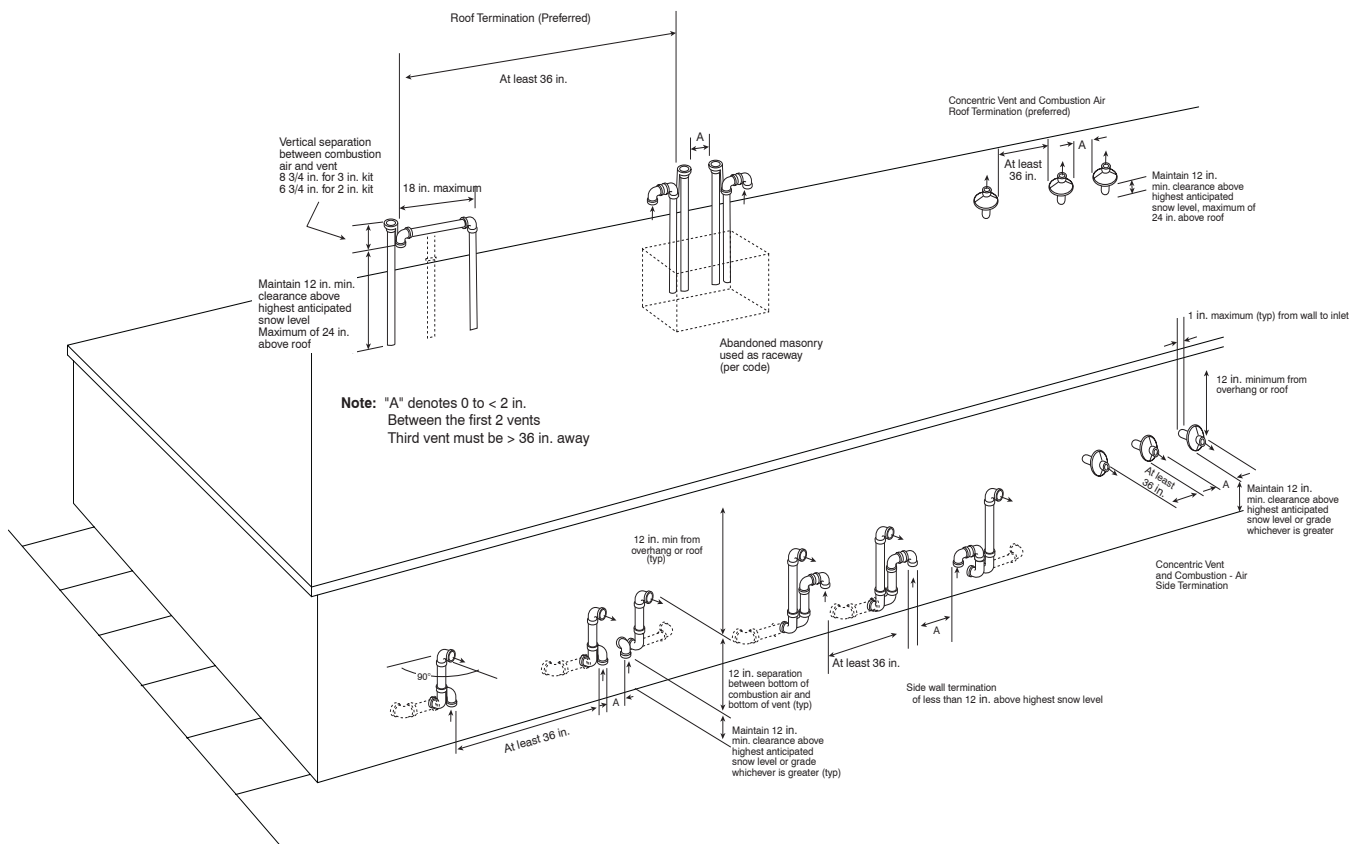
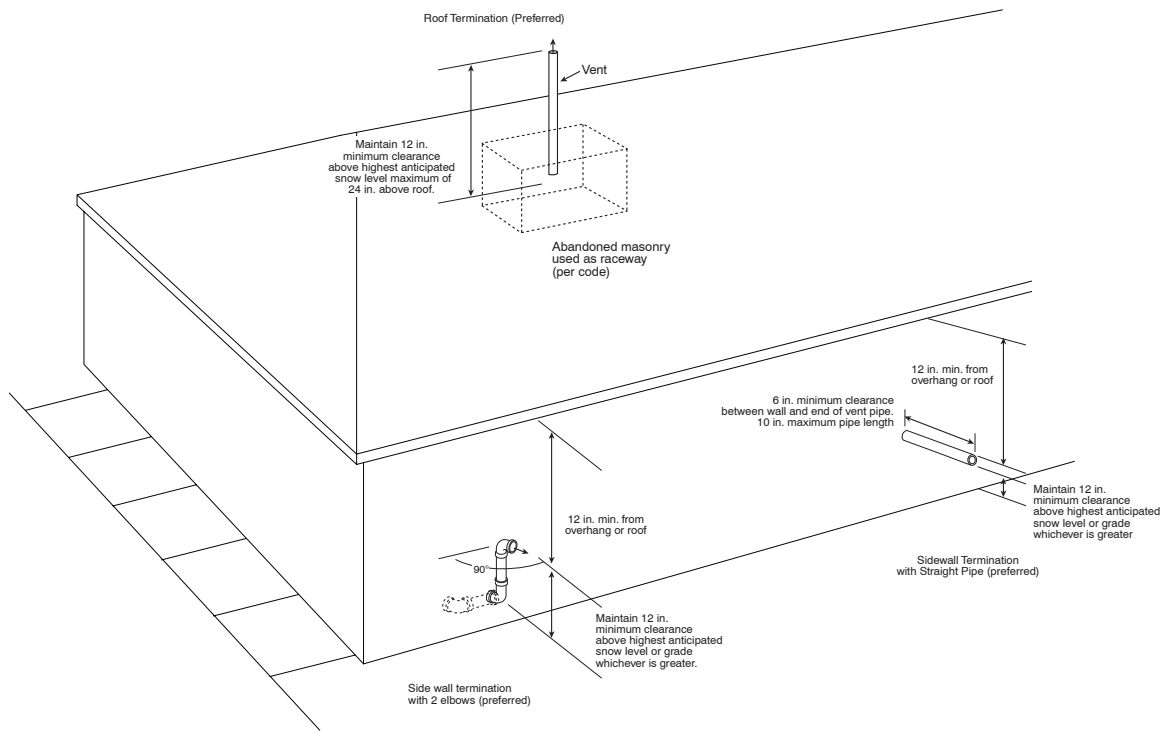

Fig. 31 – Combustion Air and Vent Pipe Termination for Direct Vent (2-pipe) System (All Sizes)
Fig. 32 – Vent Pipe Termination for Ventilated Combustion Air (1-pipe) System (All Sizes)
NOTE: (Direct Vent/2-Pipe System ONLY). Moisture in combustion air intake may be a result of improper termination. Ensure combustion air pipe termination is similar to those as shown in Fig. 31 so that it will not be susceptible to area where light snow or others sources of moisture could be pulled in.
Combustion air pipe must terminate outside the structure with the vent pipe as shown in Fig. 31. Follow the clearance requirements show in Fig. 34. Refer to Vent Termination section for complete details on termination options.
Sidewall combustion air pipe termination (direct vent/2-pipe system only) and vent pipe termination may be extended beyond area shown in Fig. 31 or in Fig. 32 per application in outside ambient by insulating pipe as indicated in Table 7.
Roof terminations-Locate assembly through roof to appropriate height as shown in Fig. 31 and 32.
Sidewall terminations-Locate assembly through sidewall with rain shield positioned no more than 1-in. from wall as shown in Fig. 31 and 32.
Roof terminations-Loosely install pipe coupling on properly cut vent pipe. Coupling must be positioned so bracket will mount as shown in Fig. 31.
indicated by dashed lines in Fig. 31, install 90° street elbow into 90° elbow, making a U-fitting. A 180° U-fitting may be used.
Sidewall terminations-Install bracket as shown in Fig. 31.
For applications using vent pipe option indicated by dashed lines in Fig. 31, rotate vent elbow 90° from position shown in Fig. 31.
4. Check required dimensions as shown in Fig. 31.
(Direct Vent/2-Pipe System ONLY)-When 2 or more 355BAV furnaces are vented near each other, 2 vent terminations may be installed as shown in Fig. 31, but next vent termination must be at least 36 in. away from first 2 terminations. It is important that vent terminations be made as shown in Fig. 31 to avoid recirculation of flue gases.